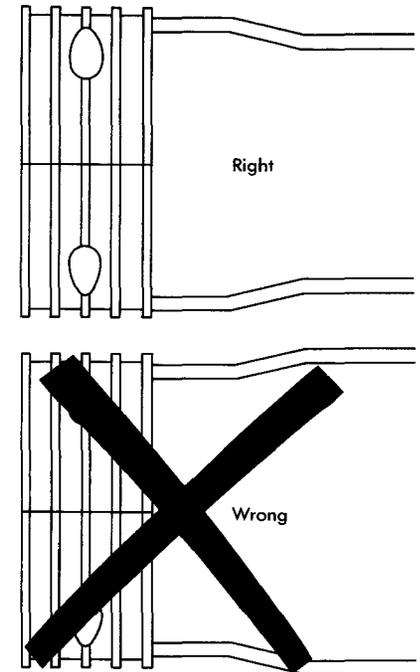
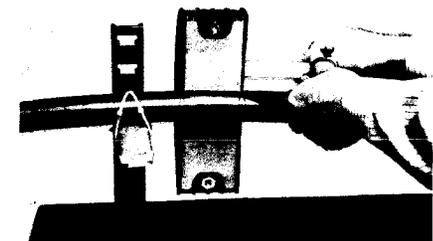

Figure 16 — Torque Bar Placement
Figure 16a — Marking Sheath Area to be Cleaned
7.02 Select end plate halves with threaded bolt holes. Bolt these halves to a torque bar. The offset in the torque bar should face the splice bundle. (Figure 16) Use this assembly to mark area to be cleaned, scuffed, and the cable opening. (Figure 16A).